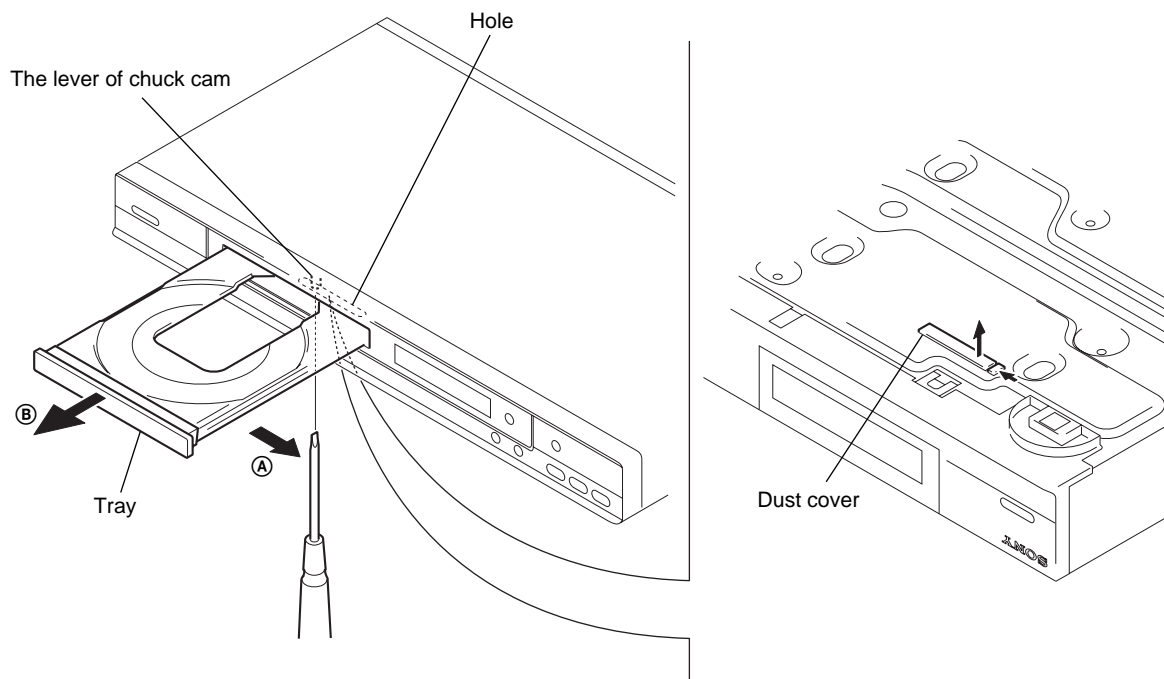

Fig. 1
- 1) Open dust cover to access to a hole insert a tapering driver into the aperture of the unit bottom, and move the lever of chuck cam in the direction of arrow **(A)**. (See Fig. 1)
- 2) Draw out the tray in the direction of arrow **(B)**, and remove a disc. (See Fig. 1)